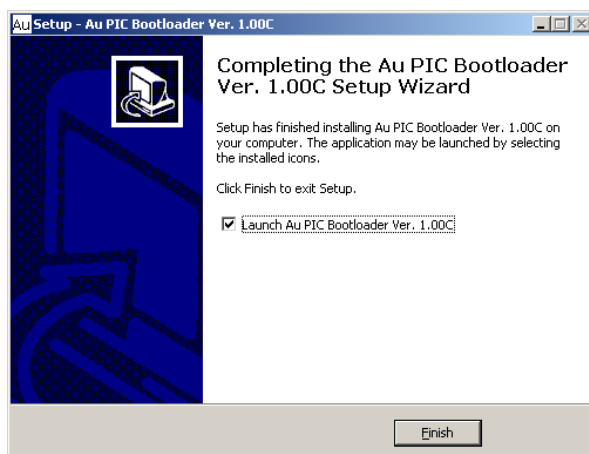

Figure C-8
8. After a few seconds, "Completing the Au PIC Boot-loader Setup Wizard" window shows up. Check "launch Au Boot-loader", and click "Finish" to exit setup (Figure C-8).